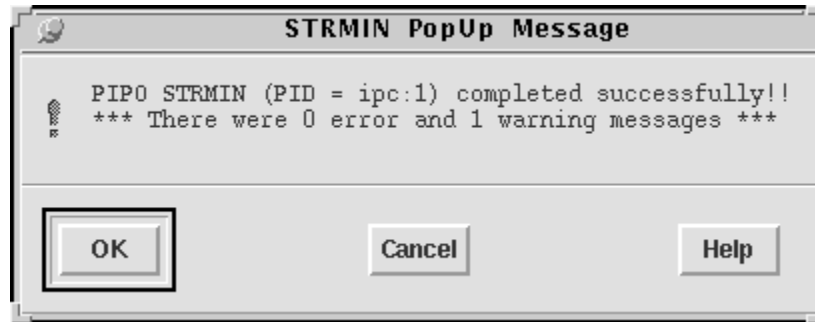

Fig 28: STRMIN PopUp Message
7. Wait for some time as the stream in procedure takes some time. You will get a message that STRMIN completed successfully with 0 errors and 1 warning. This “STRMIN PopUp Message” is shown in Fig 28. If you get more than one warning then there is some problem. Read the icfb window to see the problem.
8. If you don't get any errors and you get only one warning then everything is fine. Click **OK** in Fig 28.